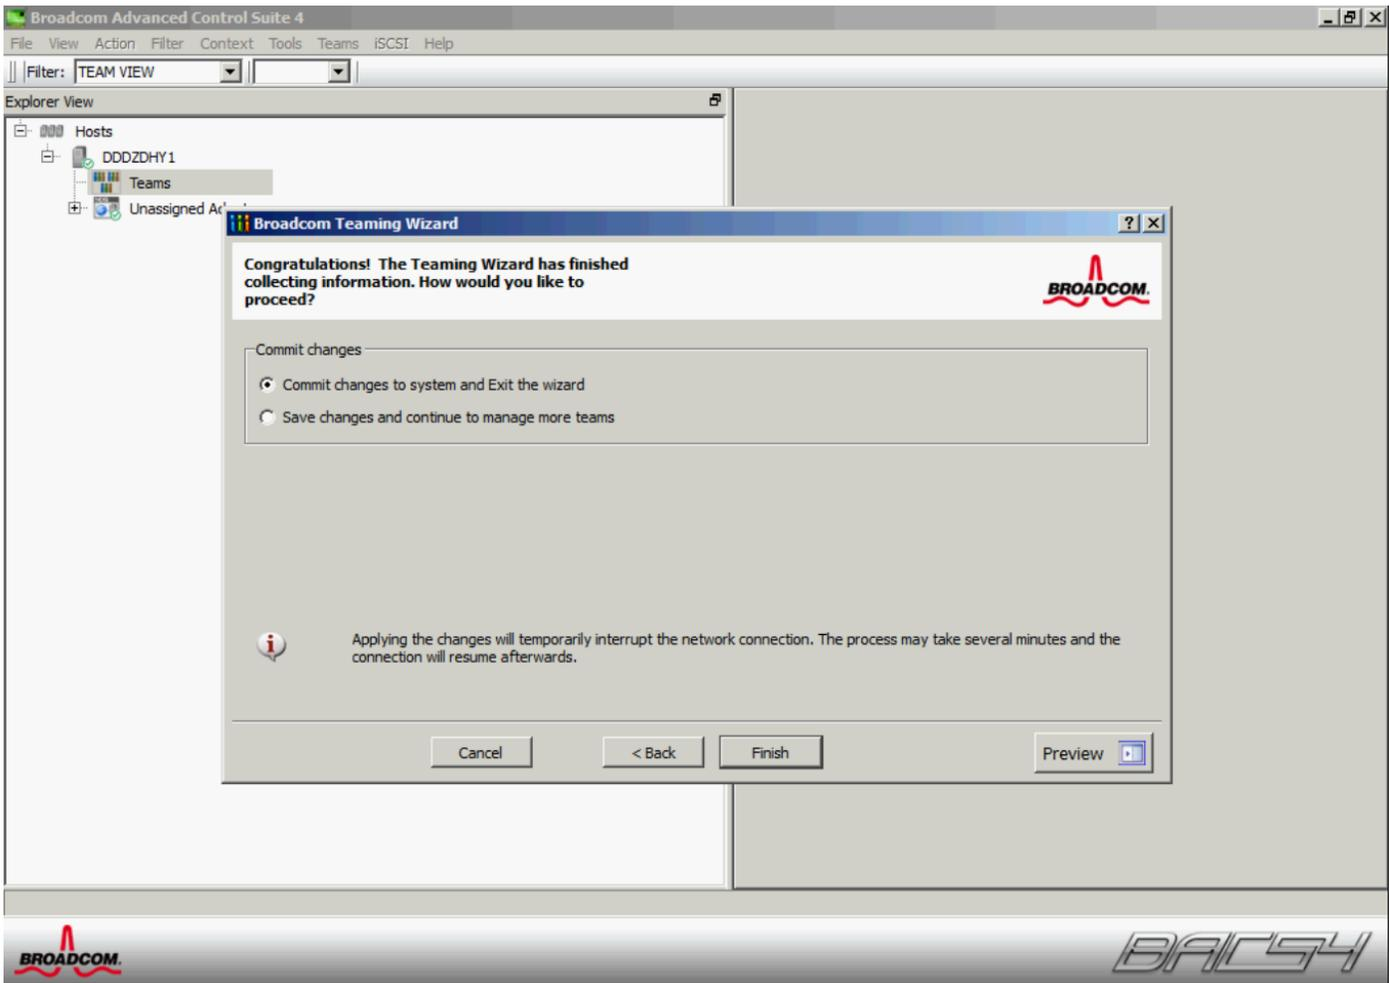

Figure 24 Committing the configuration for the NIC team
18. Click **Finish** and then click **Yes** when prompted for confirmation (Figure 24).